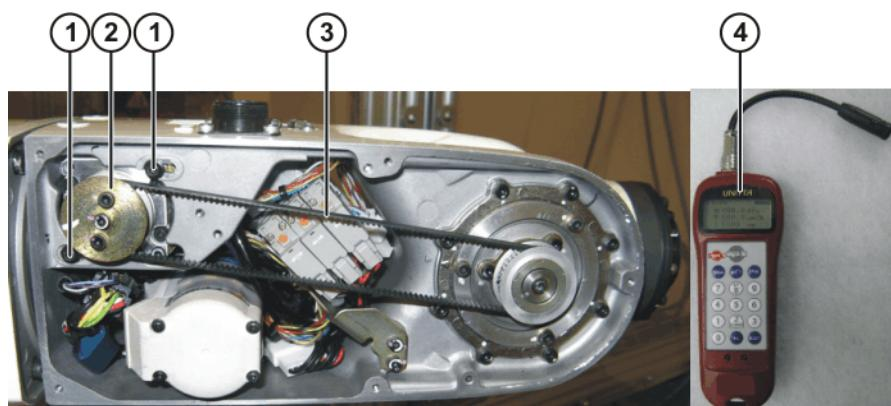

Fig. 10-4: Measuring the toothed belt tension on A5
7. Slightly slacken the 2 screws (>>> Fig. 10-4) on motor A5 until it is just possible to shift the motor.